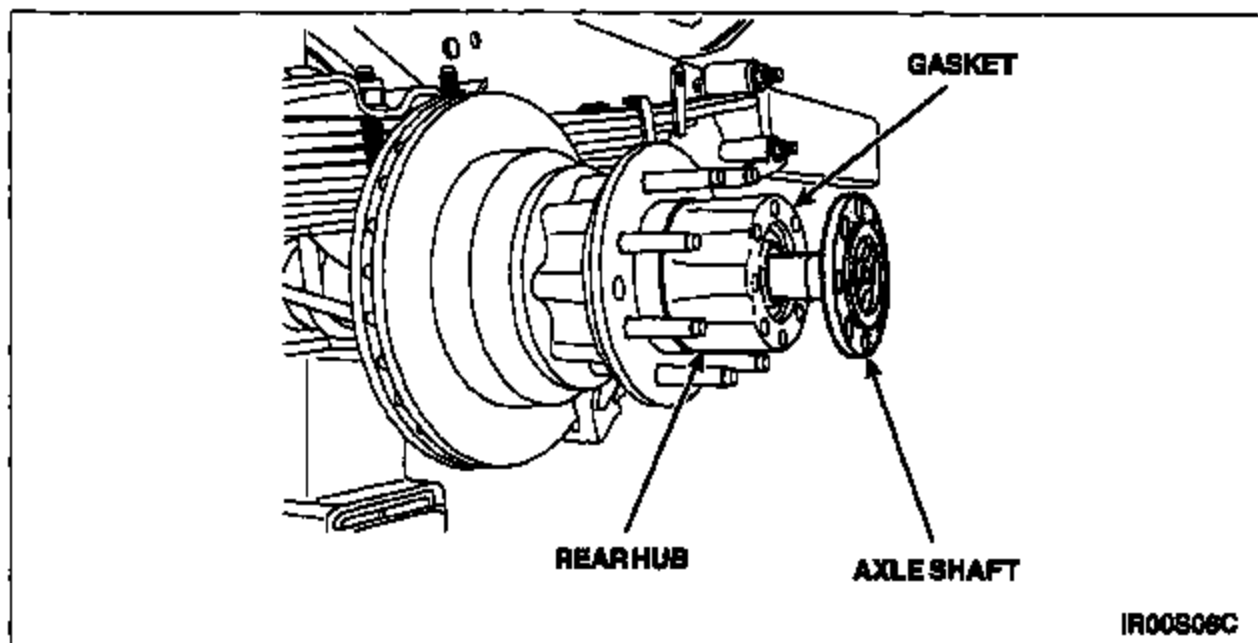

FIGURE 3
3. Remove the rear axle shaft bolts, then slide the axle shaft out of the hub. Discard the axle shaft gasket. See Figure 3.